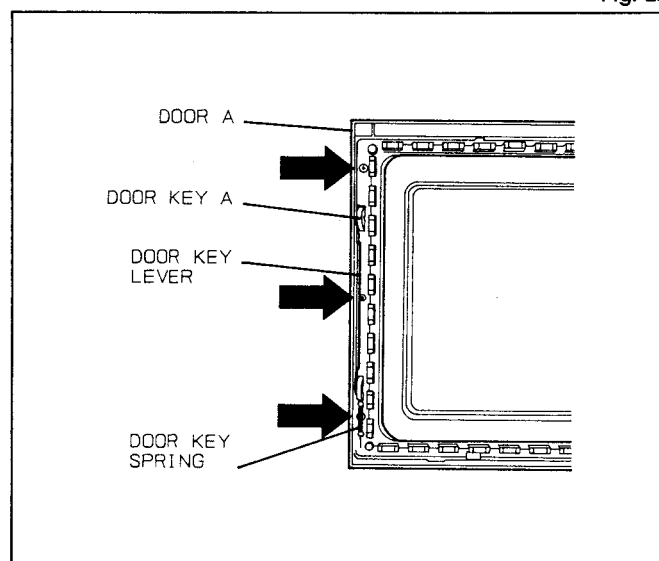

Fig. 23
- (C) Remove door key spring and remove 3 screws holding door handle. (Fig. 23)
- (E) Remove door keys, door key lever, door key spring and door key pins. (Fig. 23)